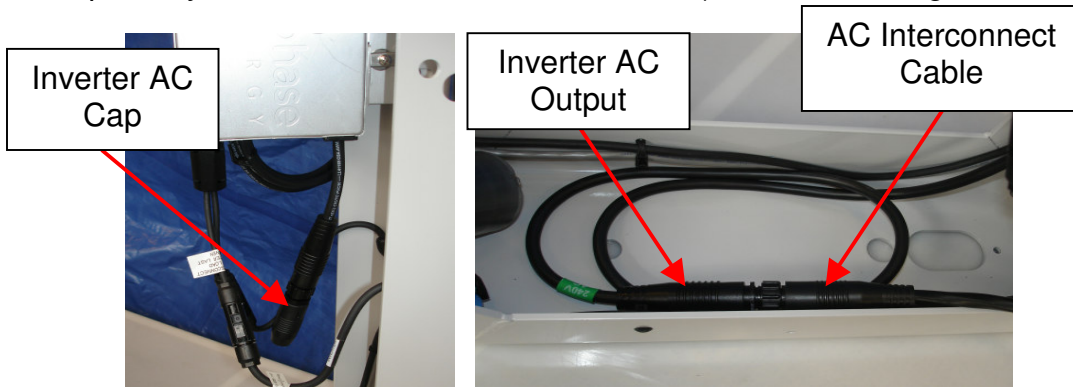

Figure 11
3. Install the Inverter AC Cap (purchased separately with the AC Connection kit – M190) onto the Enphase Micro-Inverter. See Figure 11.
4. Connect the Inverter AC output to the AC Interconnect Cable (purchased separately with the AC Connection kit – M190) as shown in Figure 11.
1. Route the two cables (GND and AC Interconnect cables) through the large hole in the bottom of the SPT frame, then through the $\frac{3}{4}$ " NPT strain relief provided in the Ground Kit Option (Use cable lubricant for easier installation). NOTE: A hole at the top of the frame is also available (See Figure 11). Depending on the pole being used, the cables can be run through a junction box mounted to the side of the pole, or through the inside of a metal pole. A hole will need to be drilled and tapped for the $\frac{3}{4}$ " NPT strain relief in order for the cables to enter the pole. See Figure 21.